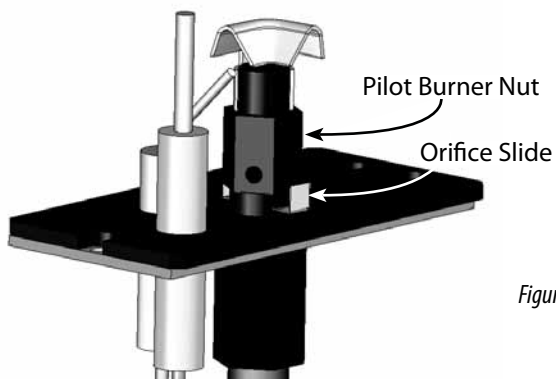

Figure A4 - Pilot Burner Details
10. Loosen the Pilot Burner Nut and push in the Orifice Slide to engage the LP Orifice. The red dot and "LP" marking on the Slide will now be exposed and the "NA" marking will be hidden. Tighten the Pilot Burner Nut securely. See *Figure A4*.